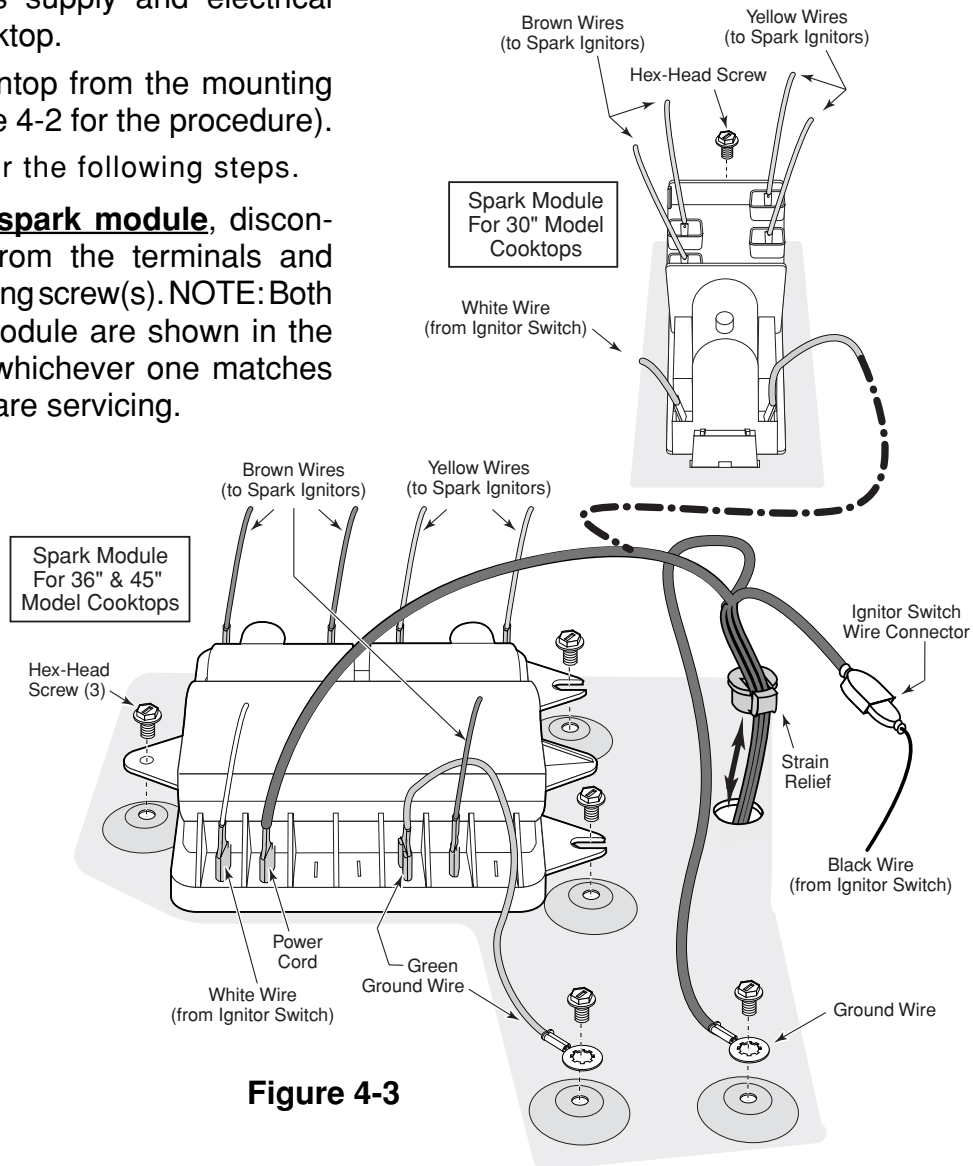

Figure 4-3
- Refer to Figure 4-3 for the following steps.
- b) When all of the switches are removed, disconnect the black wire connector from the line cord lead, and the white wire from the terminal of the spark module (see Figure 4-3 on page 4-4).